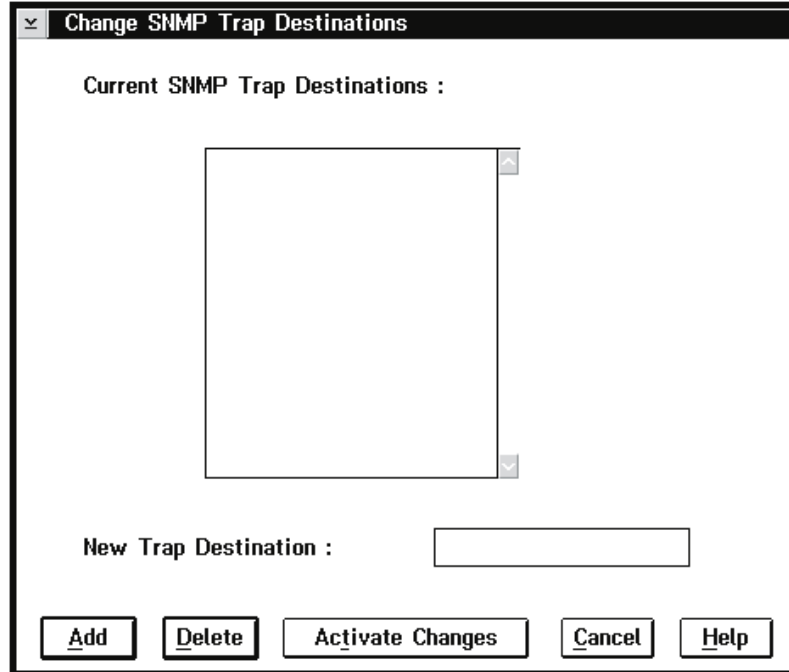

Figure 136. Change SNMP Trap Destinations Pop-Up Window (OS/2 2.11)
**OS/2 Version 2.11:** Figure 136 on page 211 shows the OS/2 2.11 version of the Change SNMP Trap Destinations pop-up window.